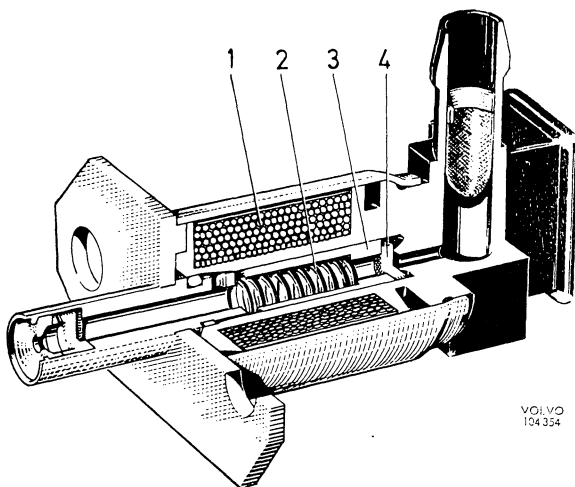

Fig. 2-66. Cold start valve
When the magnetic winding (1, Fig. 2-66) is not in circuit, the packing (4) presses against the inlet of the armature (3), which in its turn is actuated by the return spring (2). This keeps the cold start valve closed. When the magnetic winding is fed from the control unit via a control relay, the armature is drawn down and fuel is forced past the packing, through the cold start valve and into the inlet duct.